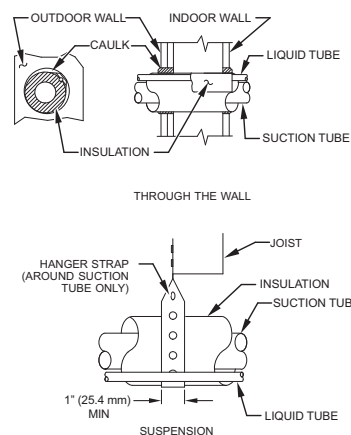

Fig. 1 - Connecting Tubing Installation
5. When passing refrigerant tubes through the wall, seal opening with RTV or other pliable silicon-based caulk. (See Fig. 1.)
7. Do not suspend refrigerant tubing from joists and studs with a rigid wire or strap which comes in direct contact with tubing. (See Fig. 1.)
9. When necessary, use hanger straps which are 1 in. wide and conform to shape of tubing insulation. (See Fig. 1.)